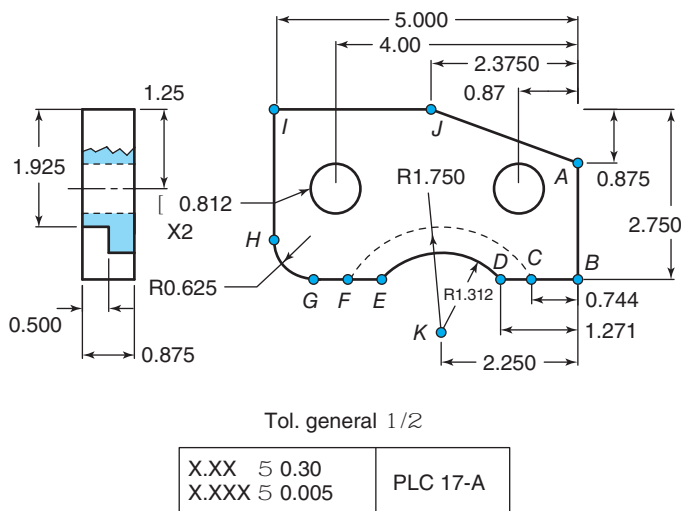

Figure 17-57 Problems 3–10.
Problems 3 through 6 refer to Fig. 17-57, and the following planning.
3. In Fig. 17-57, note that part PLC 17-A is not dimensioned geometrically. Where should the PRZ be placed on the drawing to write a profile milling program? Explain. (LO 17-2)
8. Using the drawing orientation (Fig. 17-57), what are the incremental coordinates of point K (arc center) using point D as the present reference location? (LO 17-2)
10. With the part in the drawing orientation, write the absolute coordinates of the geometry. Figure 17-57 points in the order given. Leave null entries off. You are not writing curve commands, just listing the coordinates. (LO 17-2)